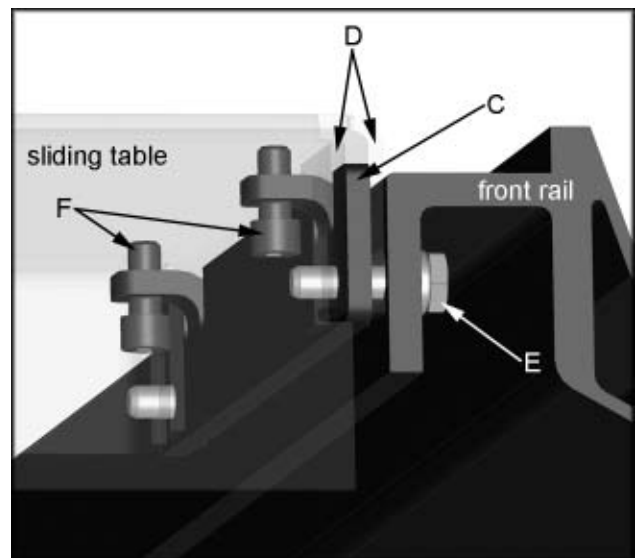
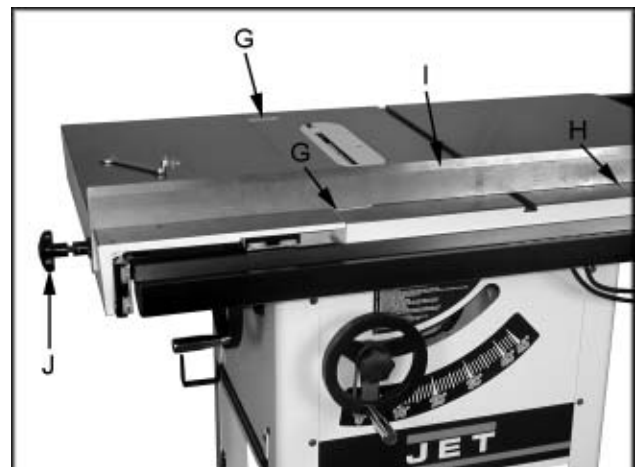

Fig. 13
Fig. 14
4. Mount table lock (J, Fig. 14) to the sliding table with two M6x16 socket head screws. Rotate knob 90° to engage/disengage lock.
5. Lift the sliding table onto the leveling brackets (C, Fig. 13). The leveling bracket must rest between the two tabs (D, Fig. 13) on the sliding table support plate.
6. The sliding table should rest on the jacking screws (F, Fig. 13).
7. Place two 90° 0.02" shims (G, Fig. 14) near each end between the tables. This will help keep the sliding table parallel to the tablesaw table with the proper clearance.
9. Snug the four bolts (E, Fig. 13) but do not tighten. This will allow you to fine tune the sliding table with the jacking screws.
10. Place two flat 0.02" shims (H, Fig. 14) on the table saw tabletop for the straight edge (I, Fig. 14) to rest on. This will help keep the sliding table the right height above the top of the tablesaw. **Note:** If you don't have a straight edge you can use the fence after removing the fence body and hook.
11. Use the four jacking screws (F, Fig. 13) to raise the sliding table until it contacts the straight edge. The straight edge (I, Fig. 14) should rest flat on sliding table and shims.
12. Move straight edge to the other end of the tablesaw tabletop and raise the sliding table until it contacts the straight edge. The straight edge (I, Fig. 14) should rest flat on sliding table and shims.